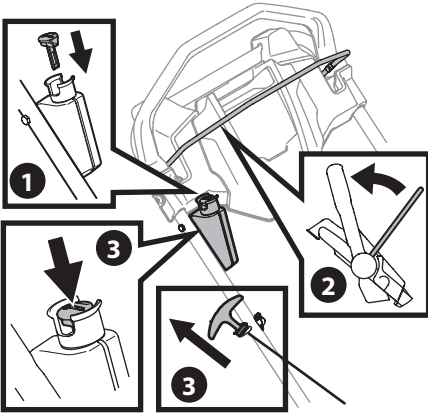

Figure 5
- **Electric Start (If Equipped):** Push the electric starter push key to start the engine (Figure 5).